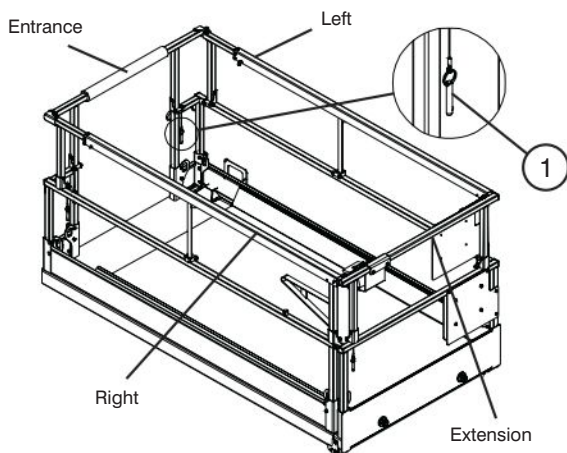

Figure 2-16a. Folding Guardrail System
6. Fold down guardrails in the following order: right-hand side, left-hand side, entrance and extension (refer to Figure 2-16a).